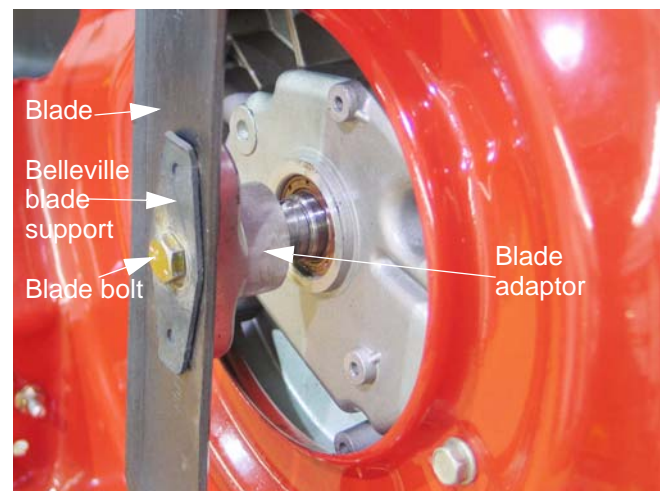

Figure 5.69
5.69. If the blade is removed for any reason, make a visual inspection of all blade mounting hardware. See Figure 5.69.